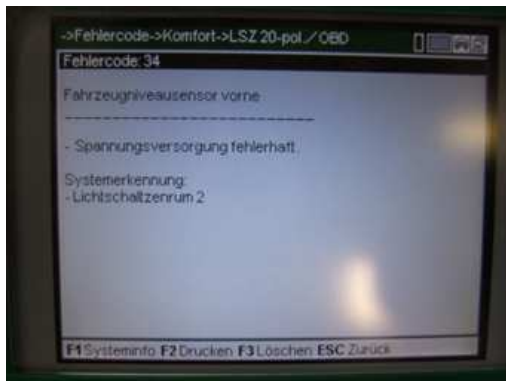

Fig. 2
2. In this case, a faulty power supply on the front vehicle level sensor will be detected (see Fig. 2).